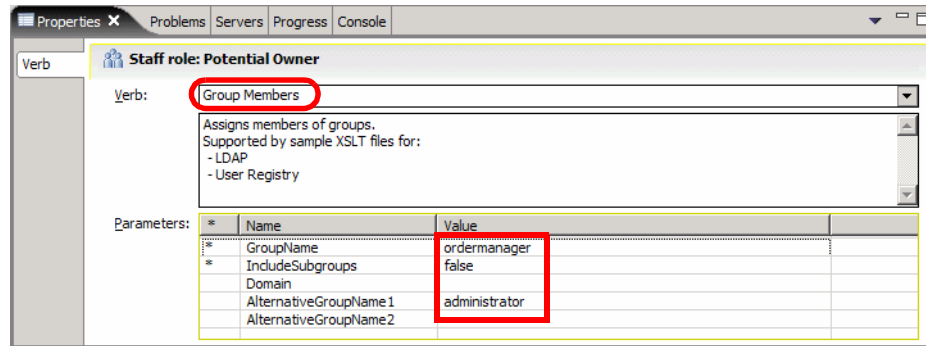

Figure 11-19 Human task properties
- Select *Potential Owner* and in the Properties view select *Group Members* as the verb (Figure 11-19).